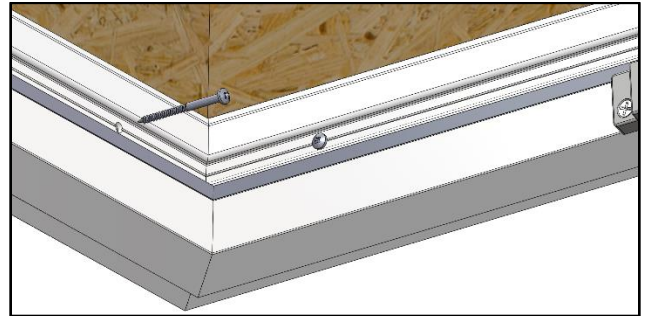

Figure 2
5. **Frame must be fastened with eight #8 x 2" pan head screws in predrilled holes through the frame.** Use shims at screw locations to prevent the screws from bowing the frame. (Fig. 2 and 3)